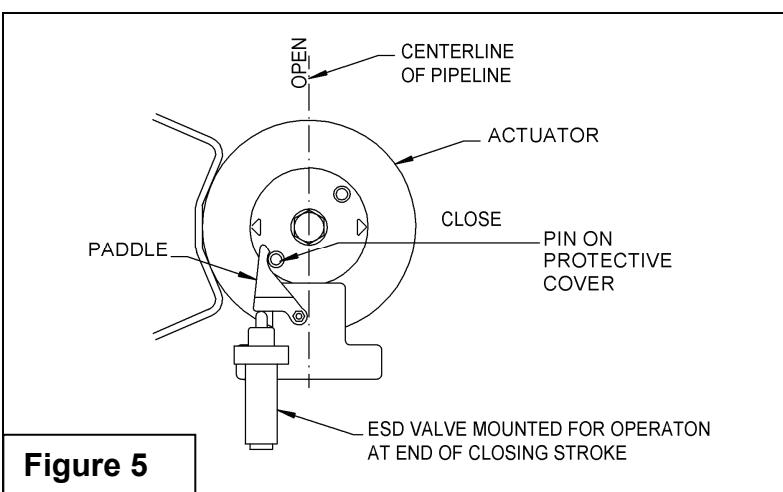

Figure 5
7. The Actuator will stroke to the end of the stroke as designed (see your schematic for position). This is where the Limit Valve should operate. (See Figure 5.)
8. Turn the Adjusting Cap (Item 3) counterclockwise until it is against the Paddle. Follow with the Lock Nut (Item 2), but do not tighten yet. Leave the Lock Nut against the Adjusting Nut (3).